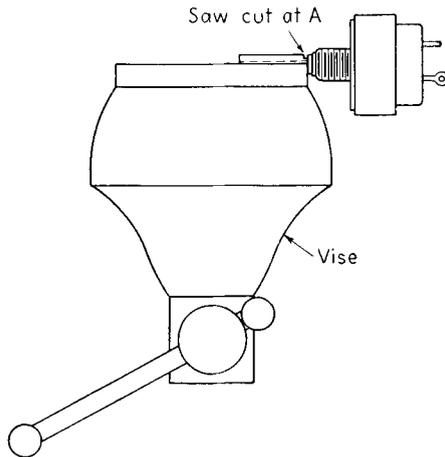

FIG. 11-14. Cutting the volume-control shaft for a push-on knob.
- b. Clamp in vise with mark showing. Cut vertically at A with a hack saw, as shown in Fig. 11-14. Stop cutting before reaching the horizontal line. File the material away, almost down to the line with the file held horizontally.